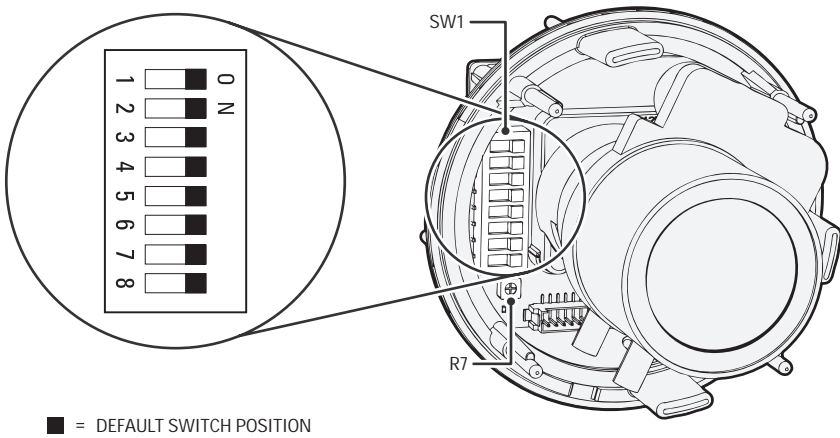

Figure 14. Adjusting the IS90-DW/CW Series Camclosure
Refer to Figure 14 to adjust the IS90-DW or IS90-CW model.
2. Select the camera to synchronize. Use the phase adjustment control (R7) to synchronize the camera to the reference camera (refer to Figure 14 on page 22). Turn R7 clockwise to increase vertical phase; turn R7 counterclockwise to decrease vertical phase.